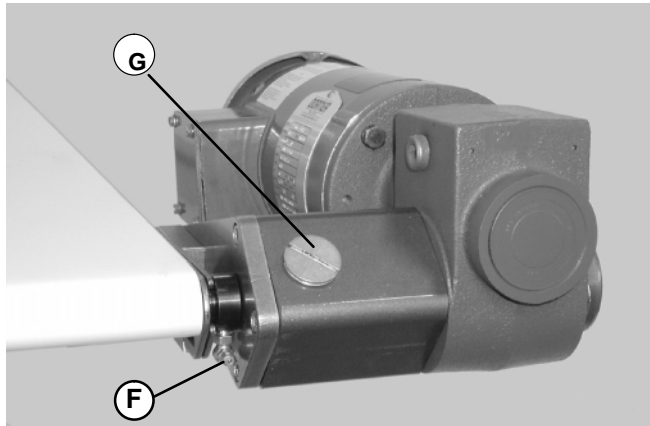

Figure 12
1. Locate drive shaft grease fitting (F of Figure 12). Lubricate pulley bearings through grease fitting.